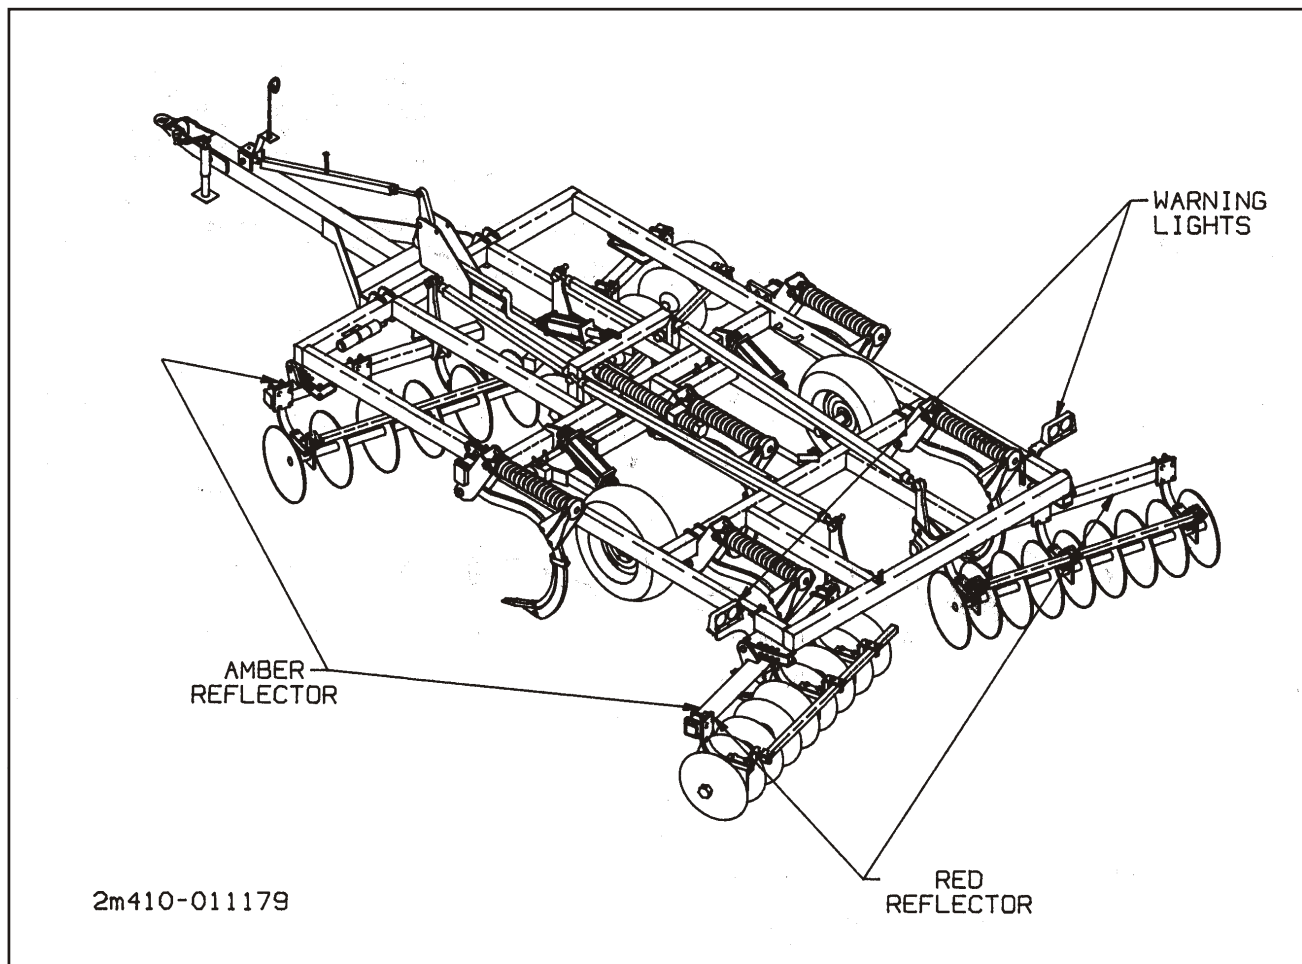

Figure 3-14 Reflector and Light Placement on Frame Assy
3-11.1 Install red and amber reflector decals on outermost parts of the disc frames (See **Figure 3-14**). Red decals go on the rear disc frames only. They must face traffic coming from behind the machine.
- 3-12.2** Install the assembled lights on the outside of the frame just forward of the rear disc adjust plates. (See Figure 3-14).